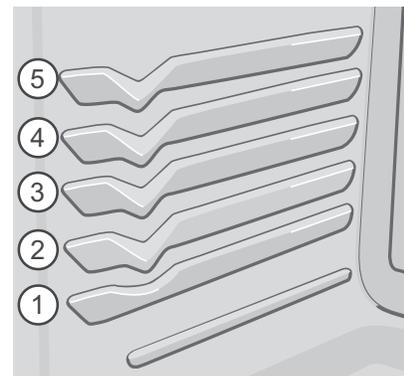

Figure 5: Rack positions for raised bake and hidden bake ovens
- For best results when baking cakes using two oven racks, place racks in positions 2 and 4 (See Figure 5).